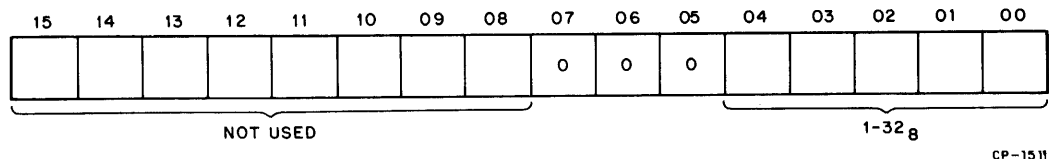

Figure 3-3 RXSA Format (RX11)
**3.2.2.2 RXSA – RX Sector Address (Figure 3-3)** – This register is loaded to indicate on which of the 328 sectors a given function is to operate. It can be addressed only under the protocol of the function in progress (Paragraph 3.3). Bits 8 through 15 are unused and are ignored by the control.